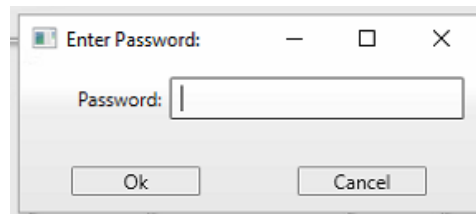

Figure 5.4: Enter Password Prompt
- Select “Enter Password” from the home screen. This displays the login prompt shown in Figure 5.4.